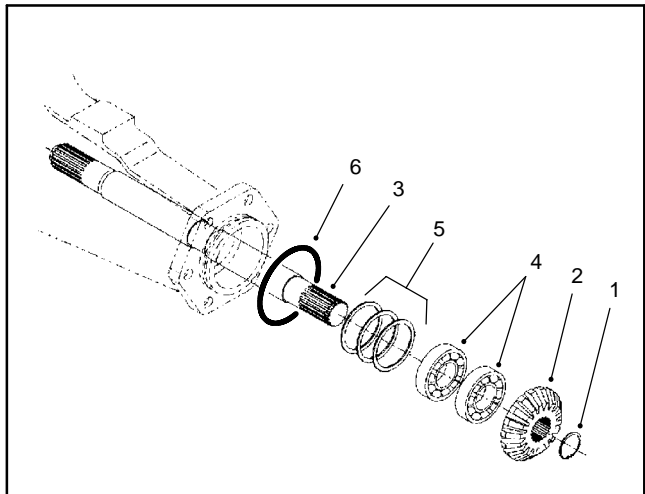

Figure 26
3. Remove the retaining ring and bevel gear (Fig. 26).